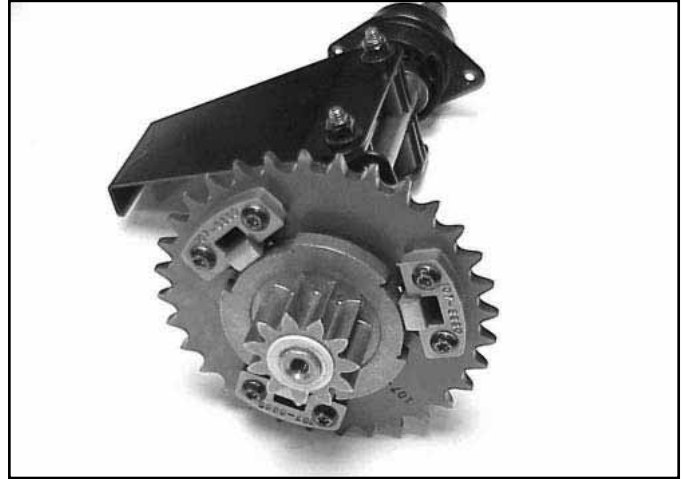

Fig 202
13. Make sure 11-tooth gear slides on so it is flush with the end of the shaft (Fig. 202).